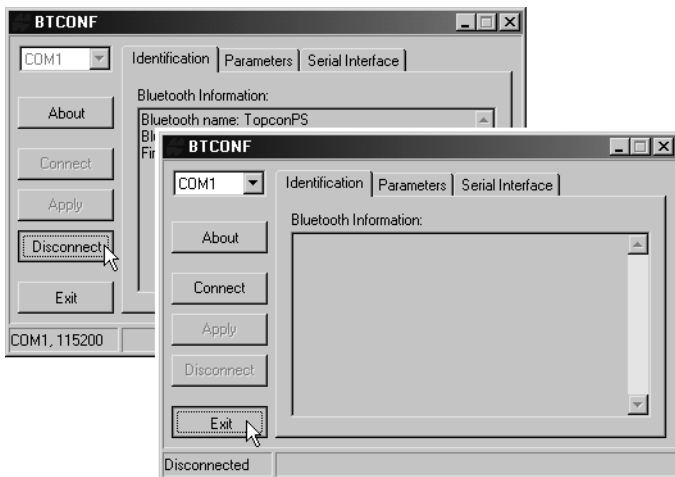

Figure 2-40. Click Disconnect then Exit
10. Click **Disconnect** then **Exit** (Figure 2-40) to quit BTCCONF.